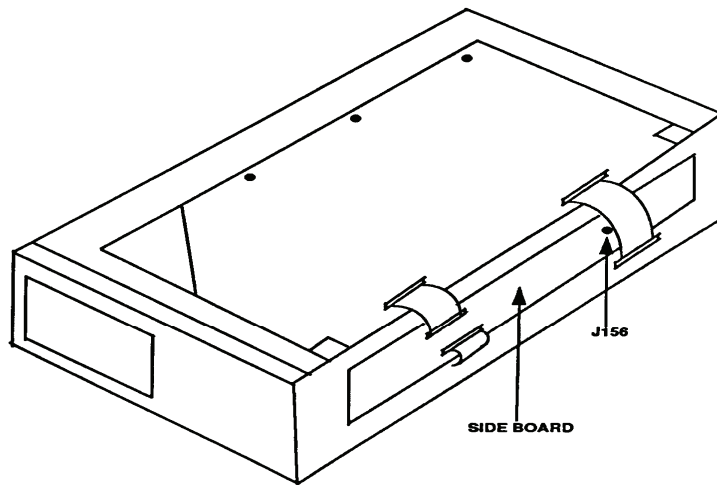

Figure 1. Test instrument jumper location (cabinet removed).
- a. Press **POWER-ON-OFF** pushbutton to **OFF** (out) and remove the cabinet from test instrument. Remove jumper J156 (fig. 1) from P156 on side board (located on right side of instrument near rear).
With jumper J156 (fig. 1) removed, calibration constants stored in TI firmware will be lost when power is applied and must be reestablished by performing this procedure completely.
q. Perform (1) through (3) below to prevent calibration constants from being lost.
(1) Press TI **POWER-ON-OFF** switch to **OFF** (out) and remove cabinet from TI.
(2) Replace jumper (J156) (fig. 1) on P156 on side board (located on right side of instrument near rear panel).
(3) Replace cabinet on TI.